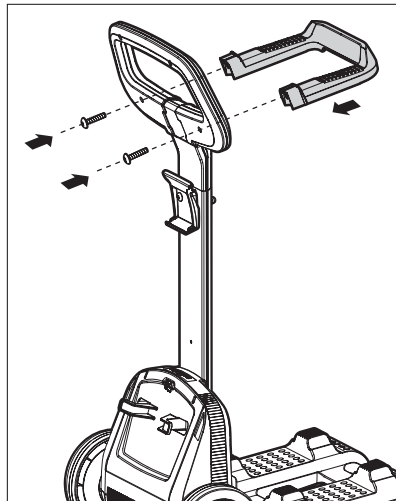

FIGURE 13
1. Using the final two shorter Phillips-head screws, secure the power cable holder to the caddy handle. See **Figure 13**.